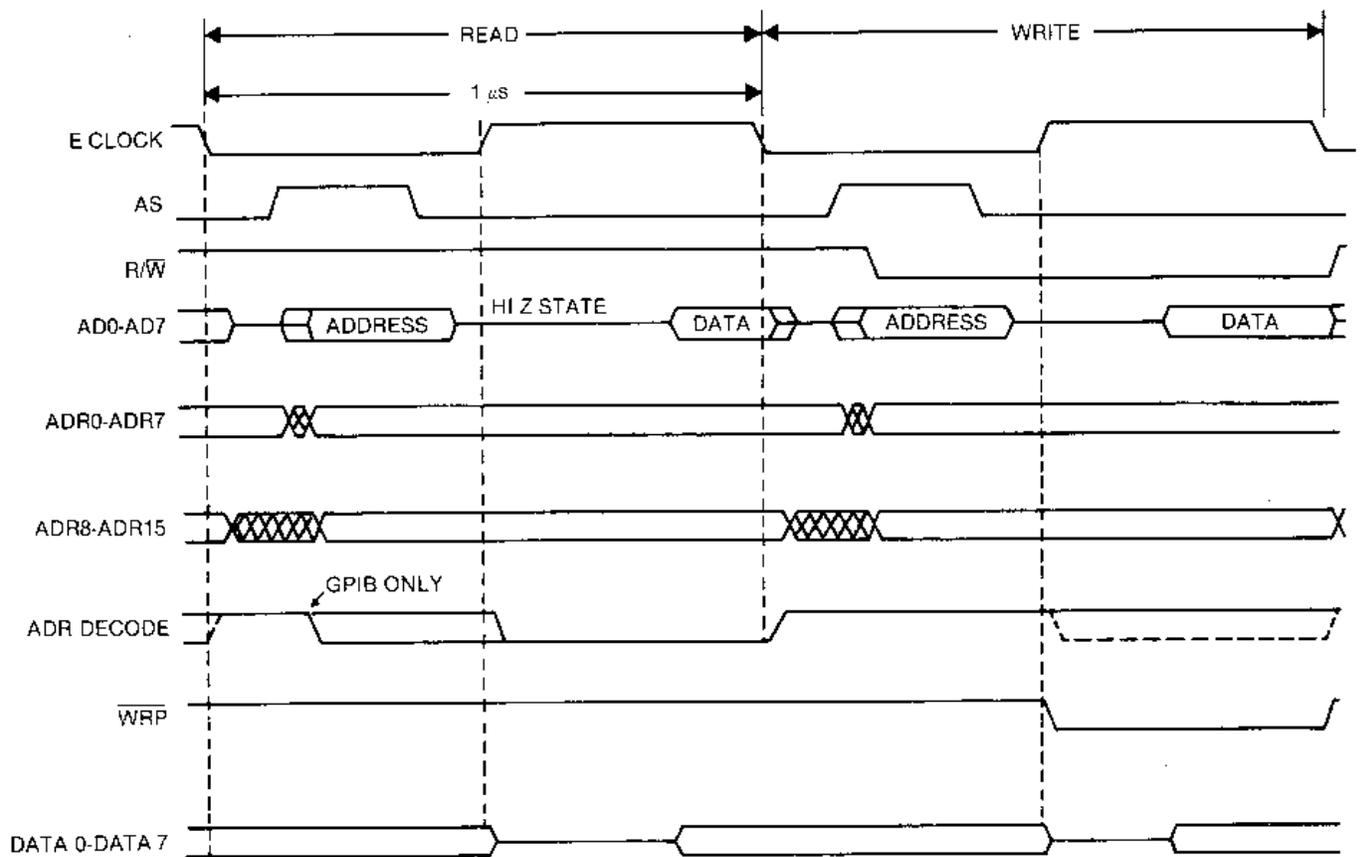

Figure 4-4. Microprocessor Timing Diagram
A clock-generating circuit within the microprocessor uses an external 4 MHz crystal, Y1, between the XTAL1 and XTAL2 pins to develop its internal phase clocks and the 1 MHz system enable clock (E). Figure 4-4 shows the approximate timing for major signals and busses in the microprocessor/memory system. Actual system timing varies somewhat from instrument to instrument, so signal spacing may be different within the 1 μs period of the system clock.
An octal latch, U4, demultiplexes the address/data bus from the microprocessor to hold the low-order addresses (ADR0-ADR7) during the part of the E clock cycle that data occurs on the multiplexed bus. Latching occurs on the negative transition of the AS signal (U3, Pin 39). See timing diagram, figure 4-4.